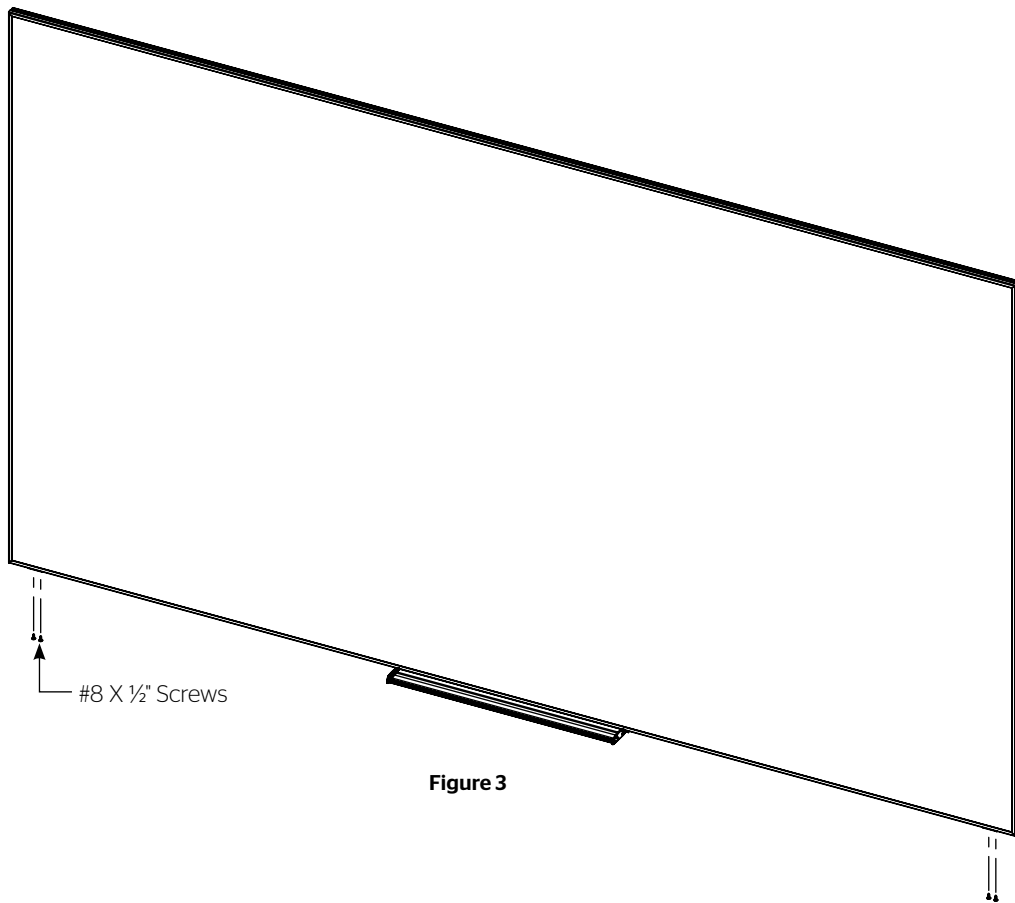

Figure 3
- Tap the bottom of the two L-brackets with the rubber mallet until they make contact with the frame. Secure the two L-brackets to the frame with the remaining (4) #8 x 1/2" screws (Figure 3).